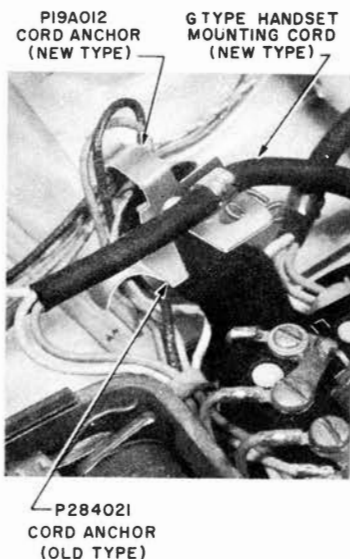
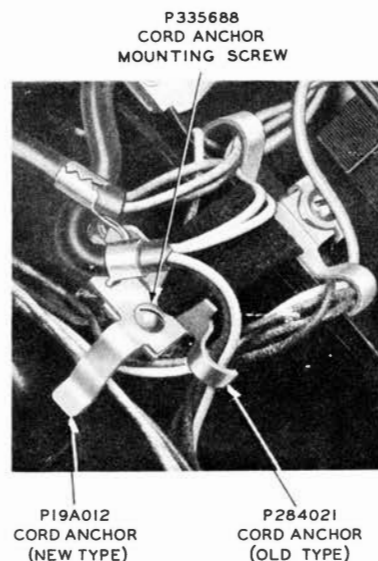

FIG. 2A—OLD TYPE CORD
FIG. 2B—NEW TYPE CORD
**4.01** An additional cord anchor is provided permitting cords with either stay cord hook or S hook to be terminated. Fig. 2A shows the new mounting cord for G-type handset, and Fig. 2B shows old mounting cord for G-type handset.